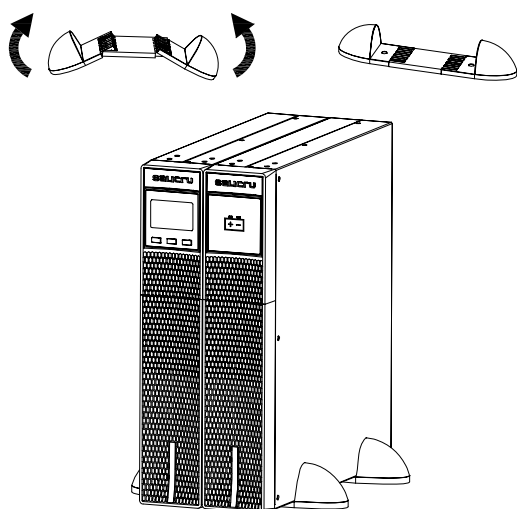

Fig. 9. Vertically mounted tower-type model with backup extension (battery module).
- Place the UPS and battery module upright between the two bases (see Fig. 9) and at a distance of 70 mm from each end, as shown in Fig. 7.
Plug the connector at one end of the cable into the corresponding socket on the SPS.ADVANCE and the one on the other end into the battery module (see Fig. 9).
Connect the earth cable to the corresponding points identified, either terminal or screw (see Fig. 9).